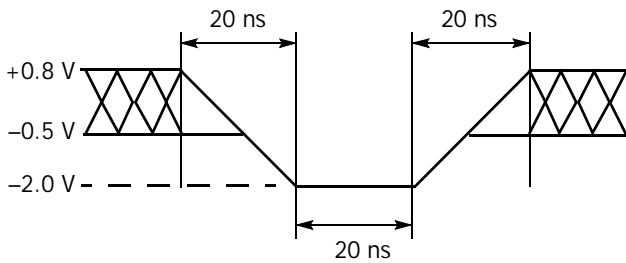
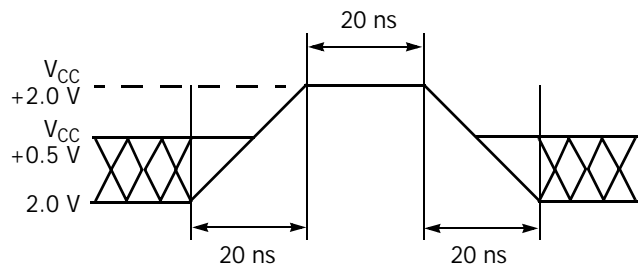

Figure 9. Maximum Negative Overshoot Waveform
Figure 10. Maximum Positive Overshoot Waveform
1. Minimum DC voltage on input or I/O pins is -0.5 V. During voltage transitions, input or I/O pins may overshoot V_{SS} to -2.0 V for periods of up to 20 ns. See Figure 9. Maximum DC voltage on input or I/O pins is V_{CC} +0.5 V. During voltage transitions, input or I/O pins may overshoot to V_{CC} +2.0 V for periods up to 20 ns. See Figure 10.
2. Minimum DC input voltage on pins A9, OE#, and RESET# is -0.5 V. During voltage transitions, A9, OE#, and RESET# may overshoot V_{SS} to -2.0 V for periods of up to 20 ns. See Figure 9. Maximum DC input voltage on pin A9 is +12.5 V which may overshoot to 14.0 V for periods up to 20 ns.